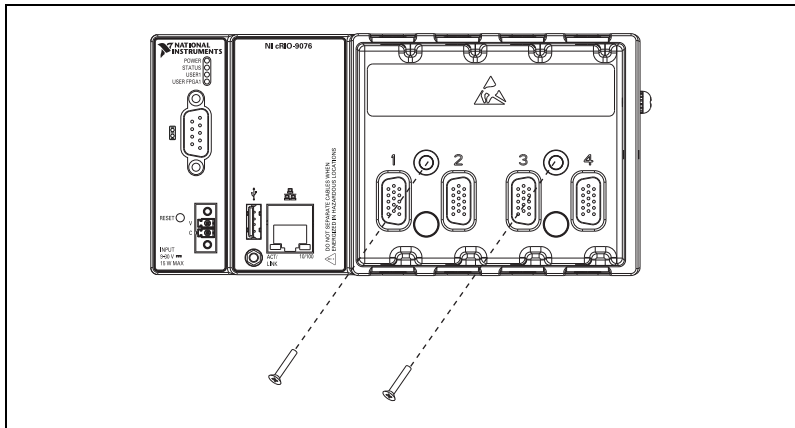

Figure 8. Mounting the Chassis Directly on a Flat Surface
2. Fasten the chassis to the surface using M4 or number 8 flathead screws, as shown in Figure 8. National Instruments does not provide these screws with the chassis.